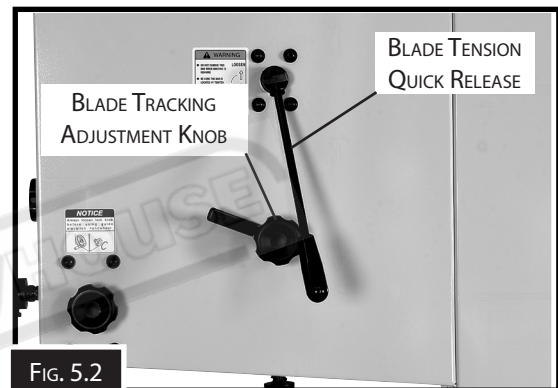

FIG. 5.2
**Blade Tracking Adjustment Knob:** Adjusts the blade tracking. (Fig. 5.2)
**Blade Tension Quick Release:** Quickly tensions or releases the blade without losing its setting. (Fig.5.2)